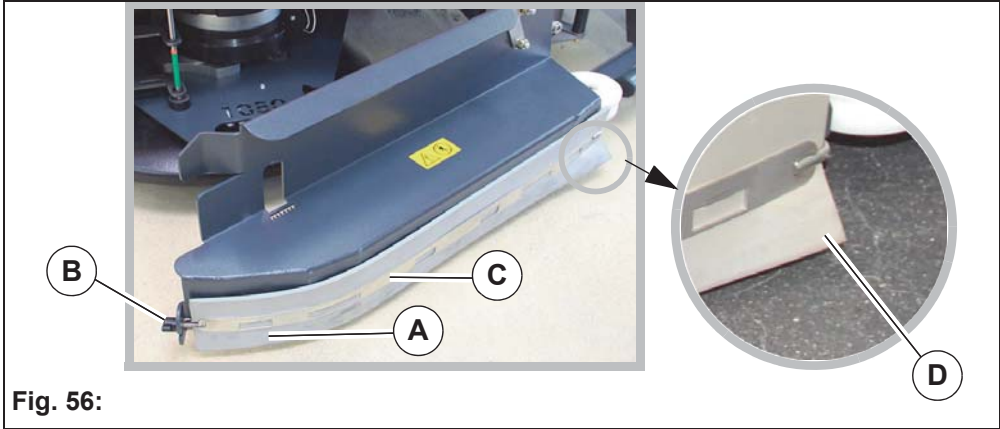

Fig. 56:
Check the rubber of the wiper **Fig. 56-A** weekly for wear, turn or replace the rubber if necessary.
1. Loosen the wing nut **Fig. 56-B**.
2. Remove the clamping band **Fig. 56-C**. Turn the rubber of the wiper (can be used 4 times) or replace it.
During installation, ensure that the corner of the wiper rubber is pointing outwards **Fig. 56-D** so that the wiper rubber folds over outwards during operation.